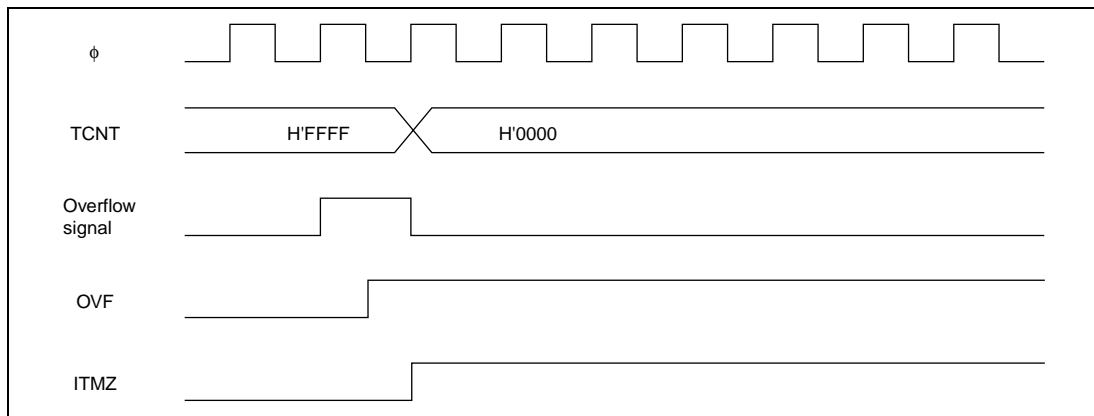

Figure 13.50 OVF Flag Set Timing
3. **Overflow Flag (OVF) Set Timing:** The overflow flag is set to 1 when the TCNT overflows. Figure 13.50 shows the timing.